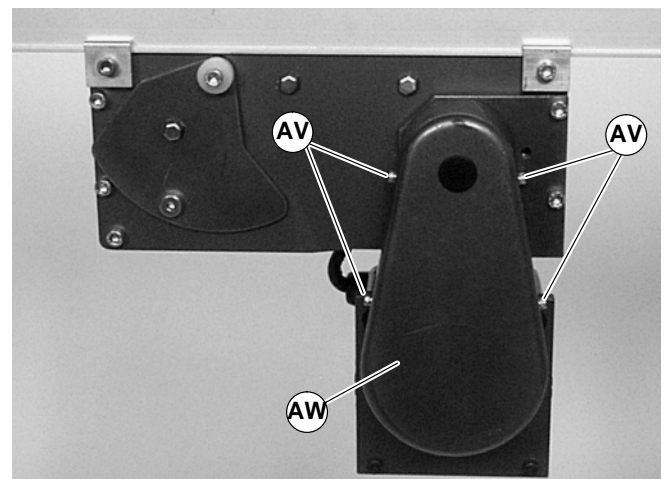

Figure 17
NOTE: Figures 17 & 18 show a vertical mount in the A position with a parallel shaft gearmotor. Horizontal mount, D position and/or 90° gearmotor are similar.
- Remove cover screws (AV of Figure 17) and remove cover (AW).